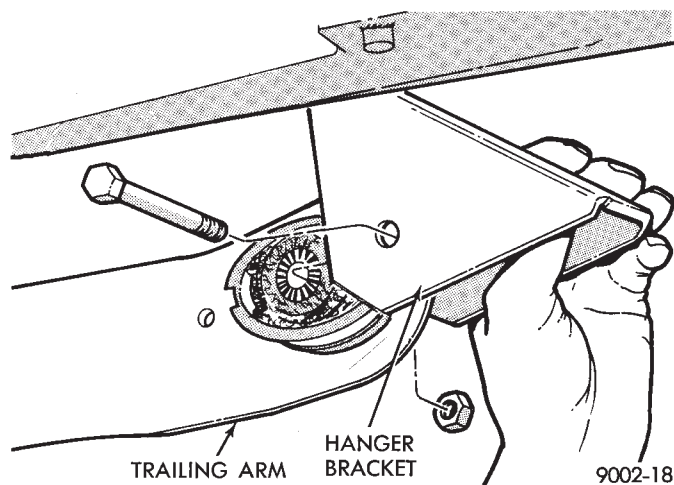

Fig. 3 Remove Hanger Bracket
(4) Remove hanger bracket to frame rail bolts (Fig. 3).
(5) Lower axle assembly down enough to remove pivot bolt and hanger bracket (Fig. 3). Right side trailing arm shown.